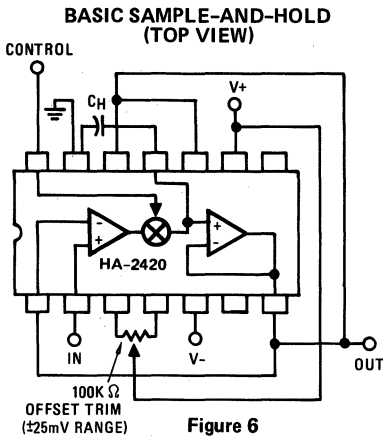

Figure 6
The offset voltage of the HA-2420/2425 may be adjusted using a 100kΩ trim pot, as shown in Figure 6. The recommended adjustment procedure is:
1. Figure 6 shows a typical unity gain circuit, with Offset Zeroing. All of the other normal op amp feedback configurations may be used with the HA-2420/2425. The input amplifier may be used as a gated amplifier by utilizing Pin 11 as the output. This amplifier has excellent drive capabilities along with exceptionally low switch leakage.